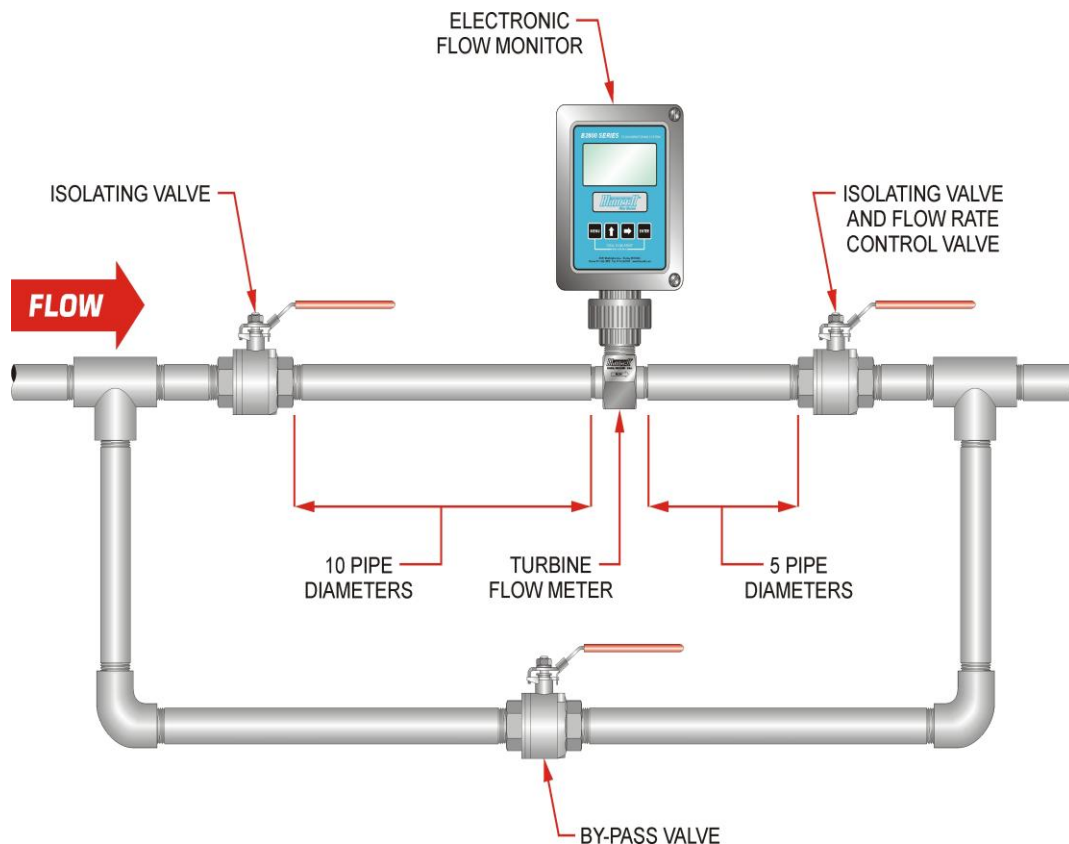

Fig. 4 Meter installation utilizing a bypass line
3. Adjust the downstream valve to provide the required flow rate through the meter. Note: The downstream valve may be used as a control valve. (see figs. 4 & 5)